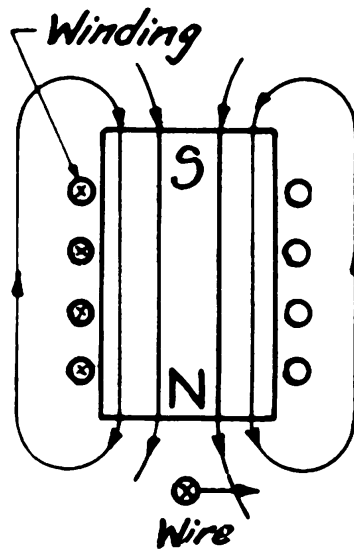

FIGURE 9.—Generator theory, electromagnet.
*d.* In practice, an electromagnet (fig. 9) is used instead of a permanent magnet. The reason for its use is that a permanent magnet tends to lose its strength over a period of time. Also, the strength of an electromagnet can be controlled by the number of turns of wire wound on it and by the amount of current (amperes) supplied through this wire.